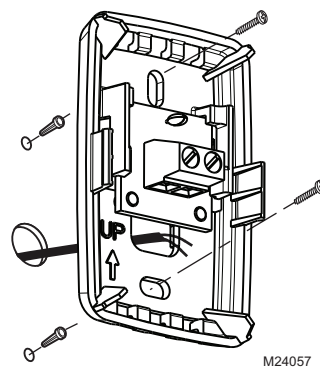

Fig. 37. Mount wallplate to wall.
5. Place wallplate over anchors, insert and tighten mounting screws (see Fig. 37).